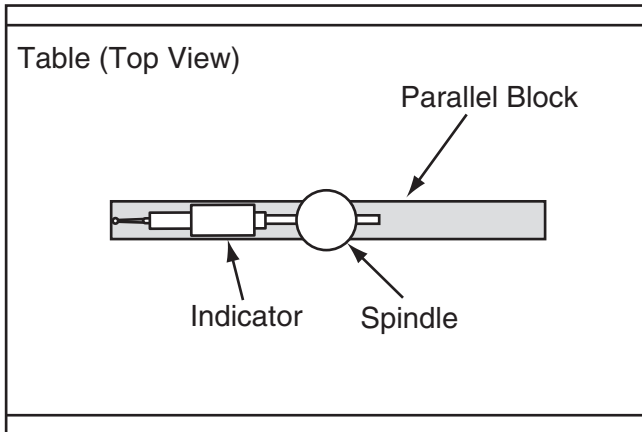

Figure 57. Setup for the X-axis adjustment.
- Place the parallel block directly under spindle and indicator across length of table, as illustrated in **Figure 57**.
- Rotate spindle by hand so that the indicator point rests on one end of parallel block, as illustrated in **Figure 57**, then zero dial.